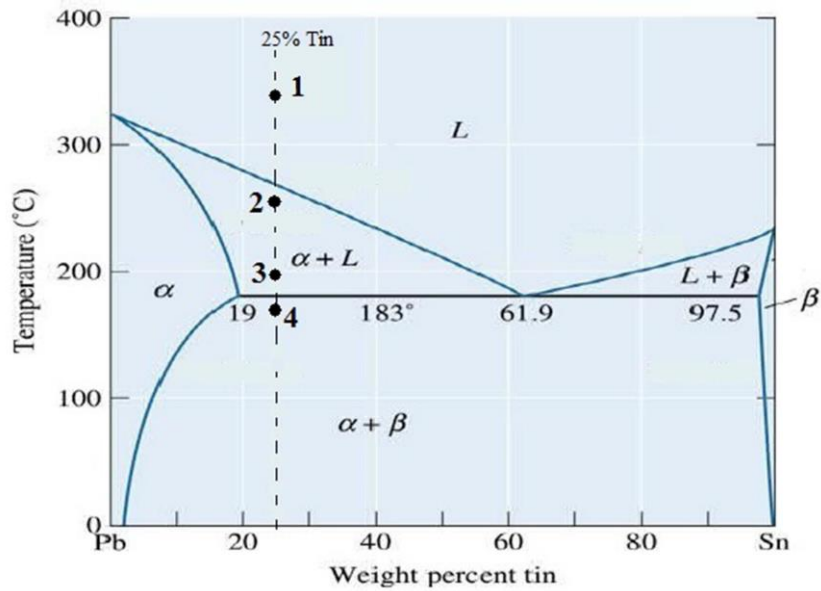

Figure 2: Lead-Tin Phase Diagram.
6. For the Lead-Tin (Pb-Sn) phase diagram shown in the Figure 2, schematically explain the microstructure development for 25% tin alloy for the points indicated on the constant composition line (1 to 4).